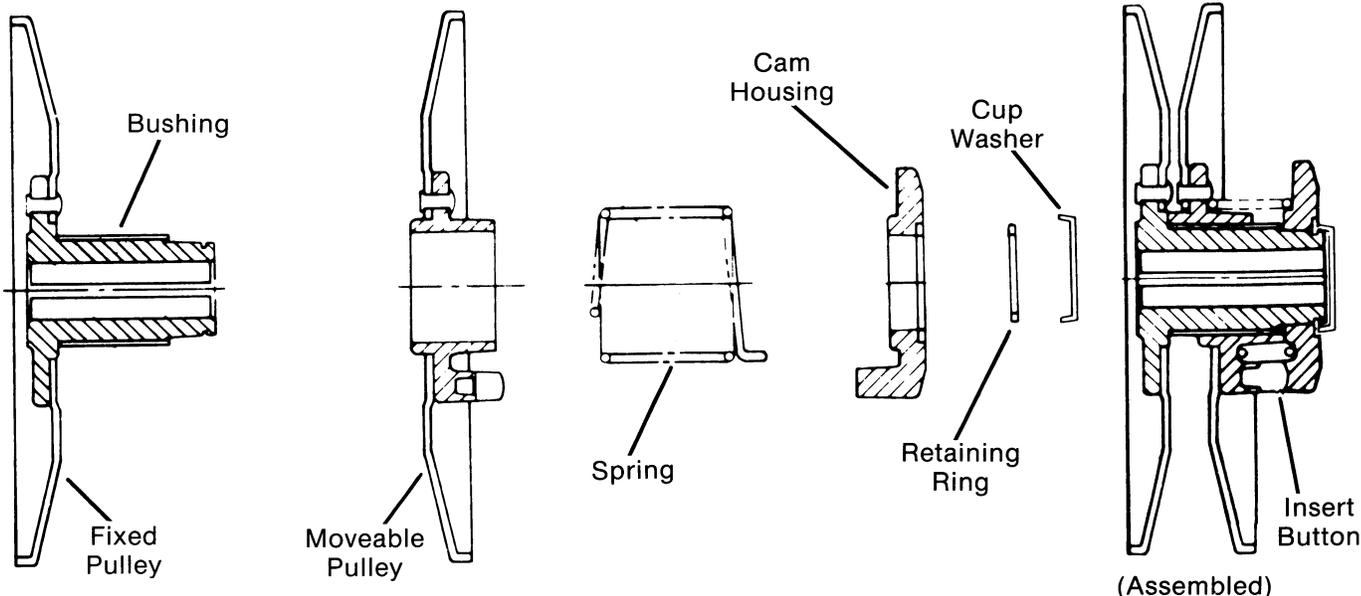

FIG. 17
- J. Reassemble torque converter by following parts sequence shown in (Fig. 17).